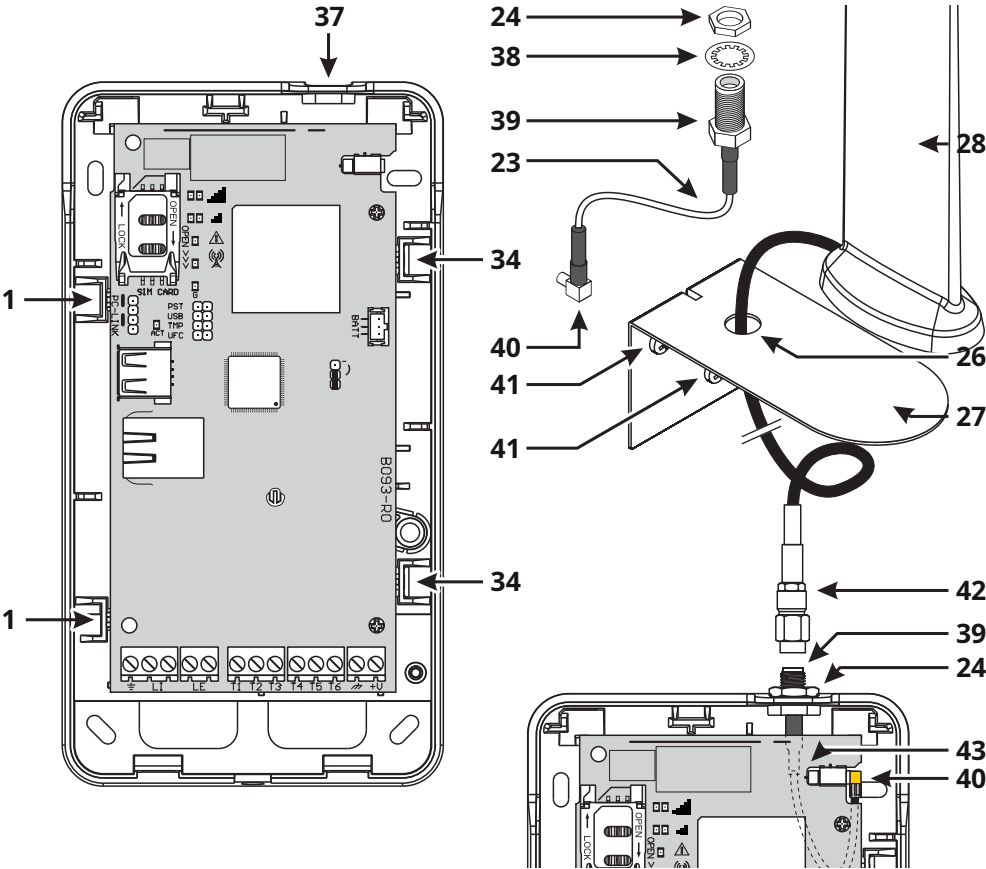

Figure 5 -Antenna installation**ANTLTE-02**.
The antenna**ANTLTE-02**It has higher gain than the communicator's built-in antenna in the housing version, and can be installed indoors within a 2-meter radius of the communicator, to improve cellular signal reception, as described below and shown in Figure 5.
- Make sure the adapter cable is positioned as shown in Figure 5.